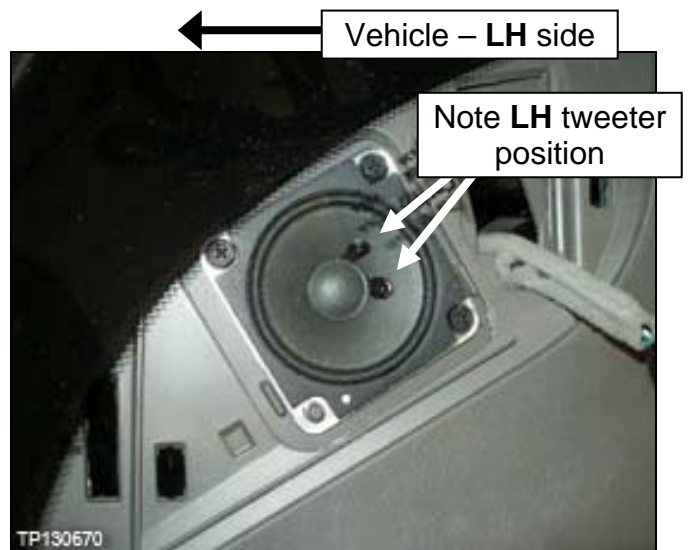

Figure 64
52. Using suitable tools, remove the three (3) small bolts, and then pull out the LH tweeter.
**NOTE:** The LH tweeter has one installed position only (see Figure 64).